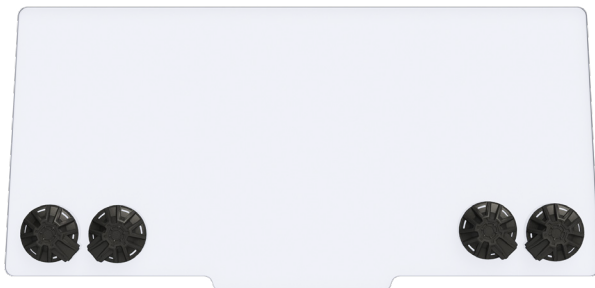

Fig.1
2. Locate mounting areas for the Exciters. The Exciters should be positioned near the bottom and/or vertical trim (Fig.1) to provide an optimal path for the wires.